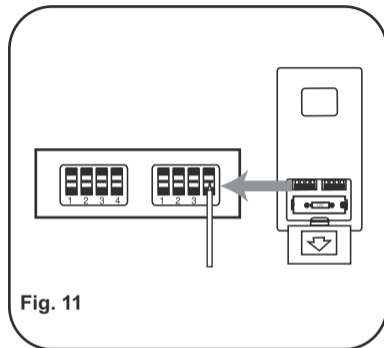

Fig. 11
**NOTE:** The Aire Control® System is equipped with a learning frequency function which has 256 code combinations to prevent potential interference from other remote units. The frequency on your Receiver and Transmitter units have been preset at the factory. (Fig.11) No frequency change is necessary, should you desire to install another fan within the same home or area with a separate frequency code please see the "frequency interference" troubleshooting section of this instruction manual to learn how to change the frequency.